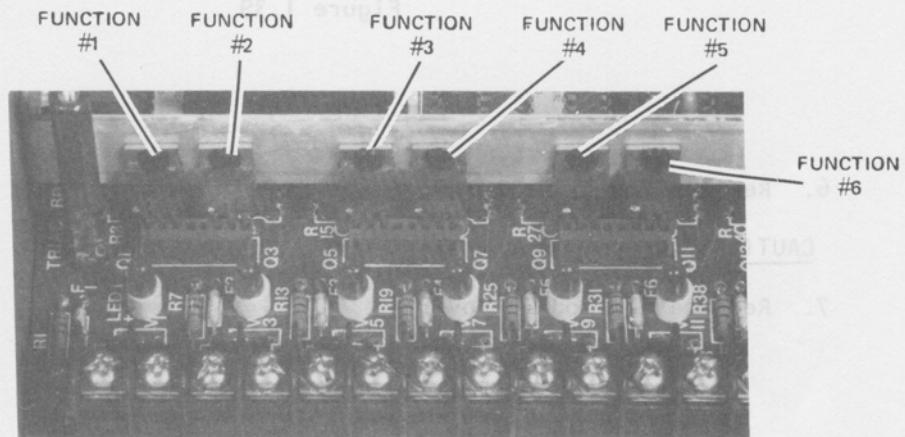

Figure 1.38
2. Locate the suspect TRIAC. See Figure 1.38.